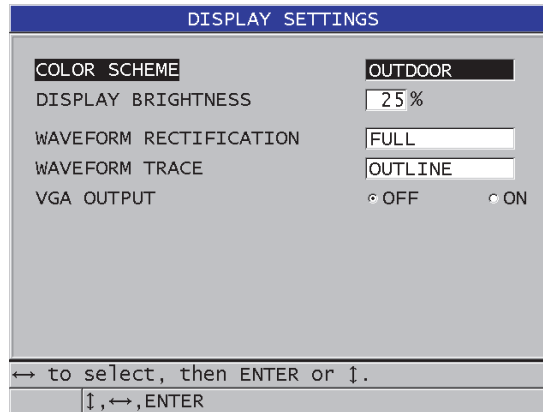

Figure 4-3 The **DISPLAY SETTINGS** screen
2. In the **DISPLAY SETTINGS** screen (see Figure 4-3 on page 66), select the desired parameter and value for the following parameters: